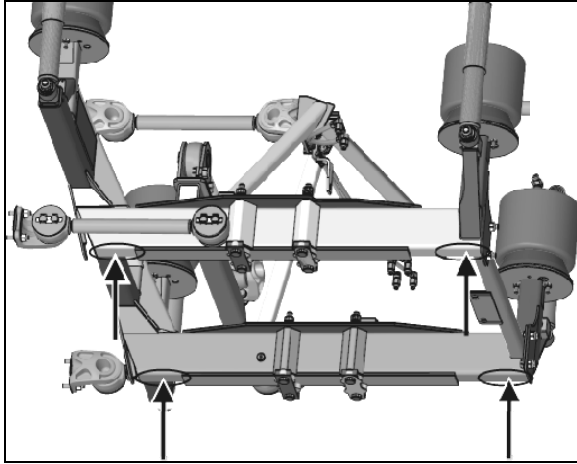

FIGURE 3: SUPPORT THE DRIVE AXLE SUBFRAME AT THE FOUR LOCATIONS SHOWN (drive axle not shown)
2. Using four appropriate jack stands, adequately support the drive axle subframe at the four locations shown on figure 3. Do not alter the normal ride height.